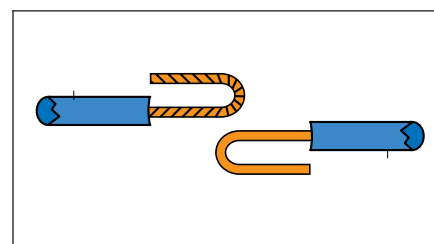

Figure 2 Form 180° Bend
5. Form a 180° bend in each wire, ensure that the wire strands have not been separated during this process. (See Figure 2.)